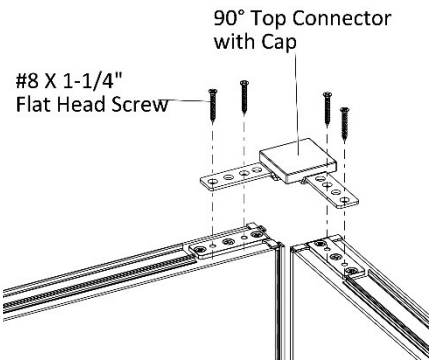

Figure 8
- 14. Position the 90-degree top connector with cap on top corner of the panel which is to be connected, (Figure 8).